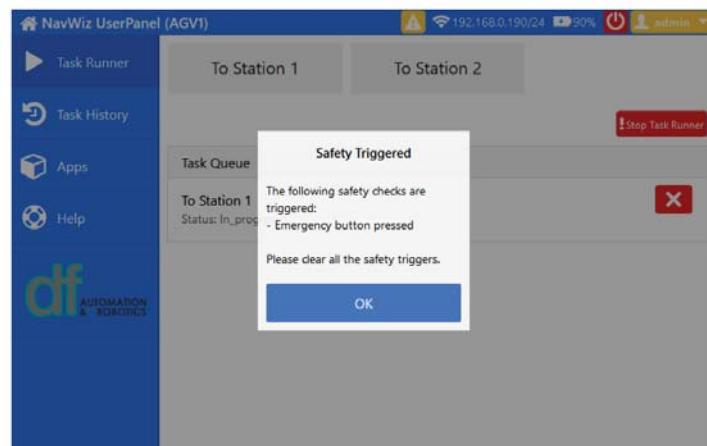

Fig. 3.29: Emergency Button Pressed Safety Triggered Message.
- i. Upon manual activation of the **Emergency Stop button**, Zalpha AGV will stop its current operation immediately and a **Safety Trigger** message with **Emergency button pressed** will be shown on the **LCD Touchscreen**. See Fig. 3.29.